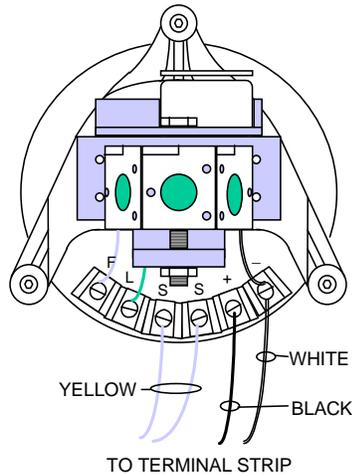
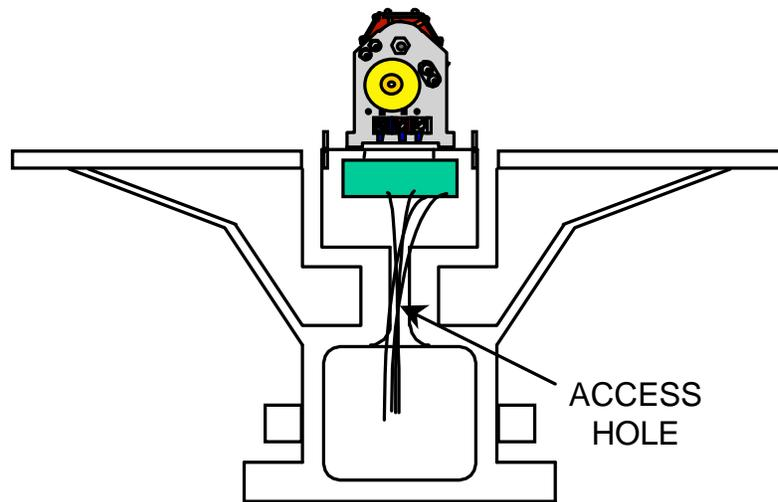

Figure 3-36
Figure 3-37
- (15) Attach the leads to the flasher as shown in Figure 3-36.
- (16) Make sure the springs are still in place in the flasher housing (inside beacon).
- (17) Pass the four wires from the flasher through the opening in the bottom of the flasher housing and pull the leads in the beacon base as the assembly is lowered, as shown in Figure 3-37.
- (18) Screw the Lampchanger Plate to the Flasher Housing with the 3 capscrews. The filament support shadow should face the non-critical area. Do not tighten capscrews.
- (19) Cut excessive wire from the flasher (leave enough to easily work on the Terminal Plate and strip ¼ inch from each lead.)